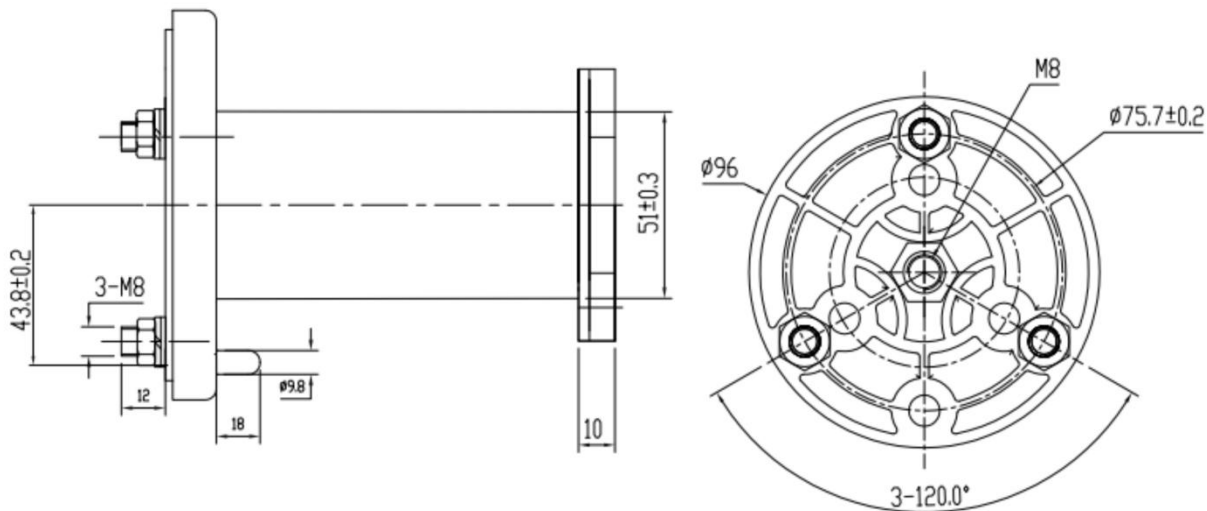

Figure 4.5 20kg damping shaft size
- The mounting dimensions for the adapter plate and base plate are shown in Figure 4.5; Adapter plates and base plates must be purchased separately according to the welding torch model and are not included in the shipping list;